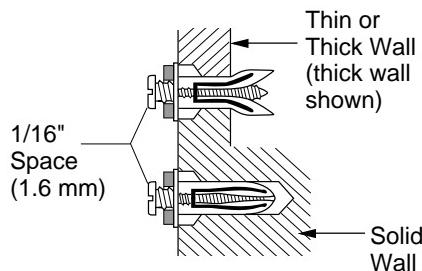

Figure 9 - Tightening Anchors
5. Tighten two screws until 1/16" (1.6 mm) space (thickness of penny) is between screwheads and wall (see Figure 9).